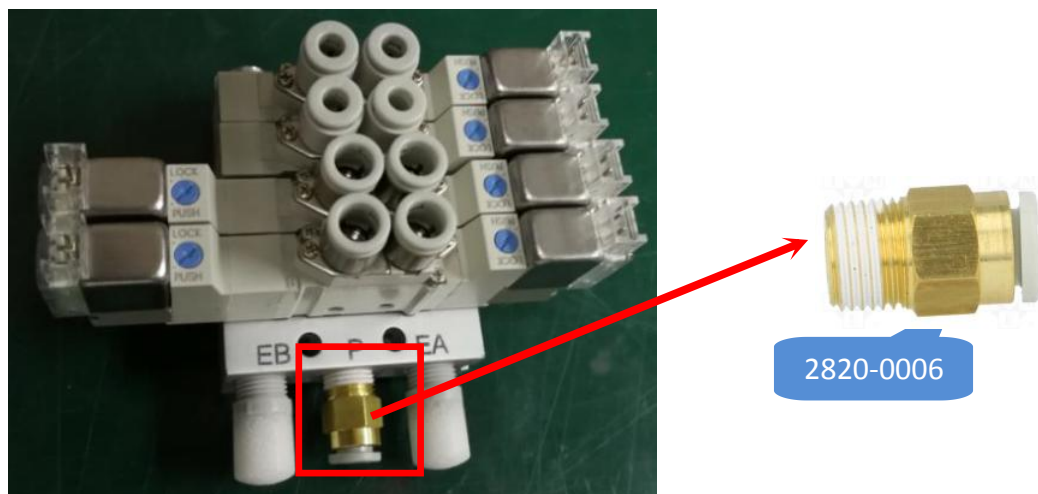

Figure 8
- iii. Assemble the Existing Metric Inlet Port at New Valve, Assembly (P/N, 4XASP-A087) as below Figure 8